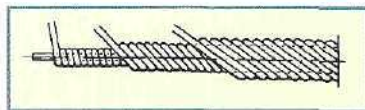
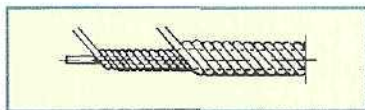

Fig. 13 Cross Lay
Fig. 14 Equal Lay
**Cross Lay (Fig. 13) and Equal Lay (Fig. 14)** - terms describing the lay of the wires used to make up the strands.